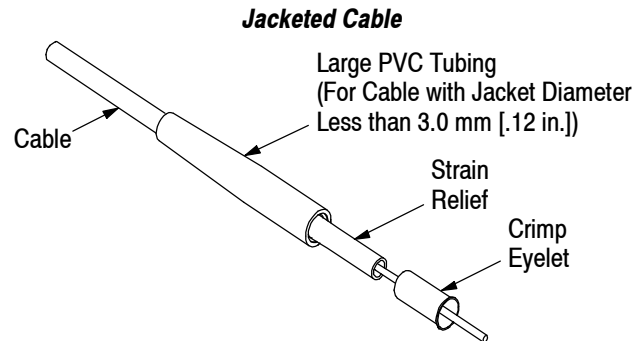

Figure 2
1. If using cable with a jacket diameter less than 3.0 mm [.12 in.], slide the large PVC tubing over the cable jacket. See Figure 2.
2. Slide the strain relief (small diameter end first) over the cable jacket. See Figure 2.